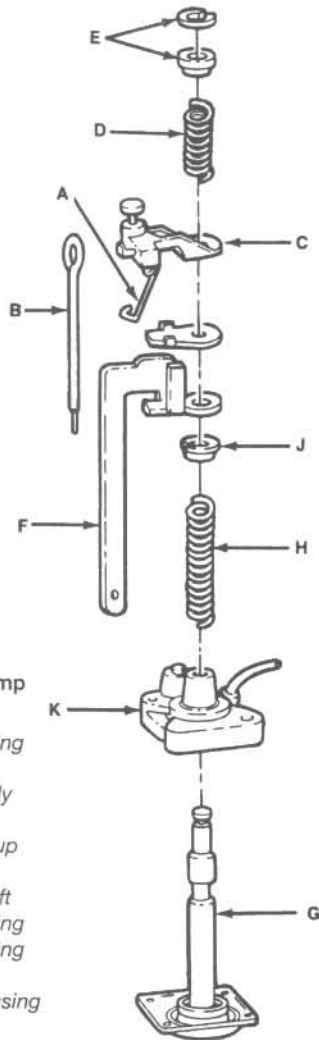

Fig. 4.76 Accelerator pump components
- 15 Referring to Fig. 4.76, disassemble the pump as follows: